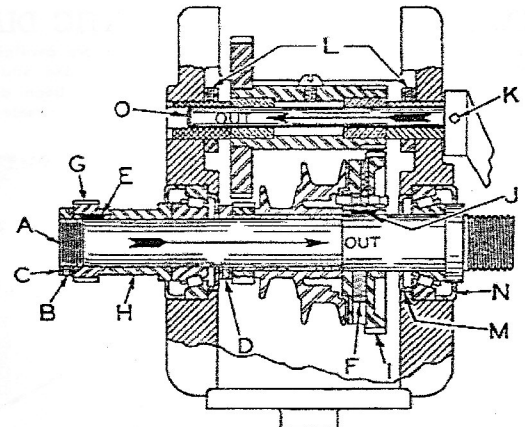

Fig. 5 Cross Section of Miller Head.
Run the miller between thirty minutes and an hour to warm up the spindle (a temperature rise of 50 degrees Fahr. increases the length of the spindle about .002 inch between bearings). Then loosen the set screw (B) on the thrust nut (C), at the extreme left end of the spindle (A), see Figure 5, and turn it up to a point where no play can be detected in the spindle. Advance this thrust nut $\frac{3}{4}$ turn (equal to one tooth of the spindle gear) past that point in order to provide the correct preload. Tighten the set screw. It is necessary to remove change gear guard on rear of miller to get at the adjusting collar. This is easily accomplished after loosening the hex screws.